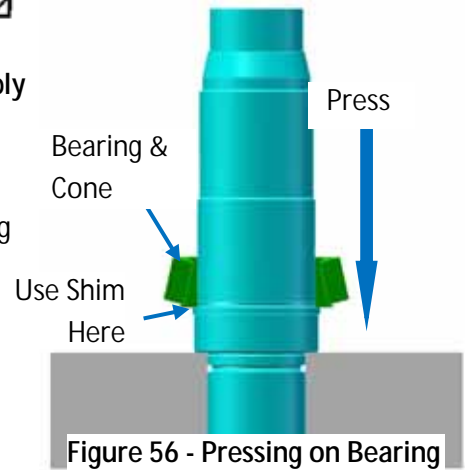

Figure 56 - Pressing on Bearing
3. Take the front bearing lower cone with roller assembly and place it over the shaft with the cone radius facing down. Make sure that the bearing assembly and cone are aligned properly before pressing them onto the shaft, Figure 56.